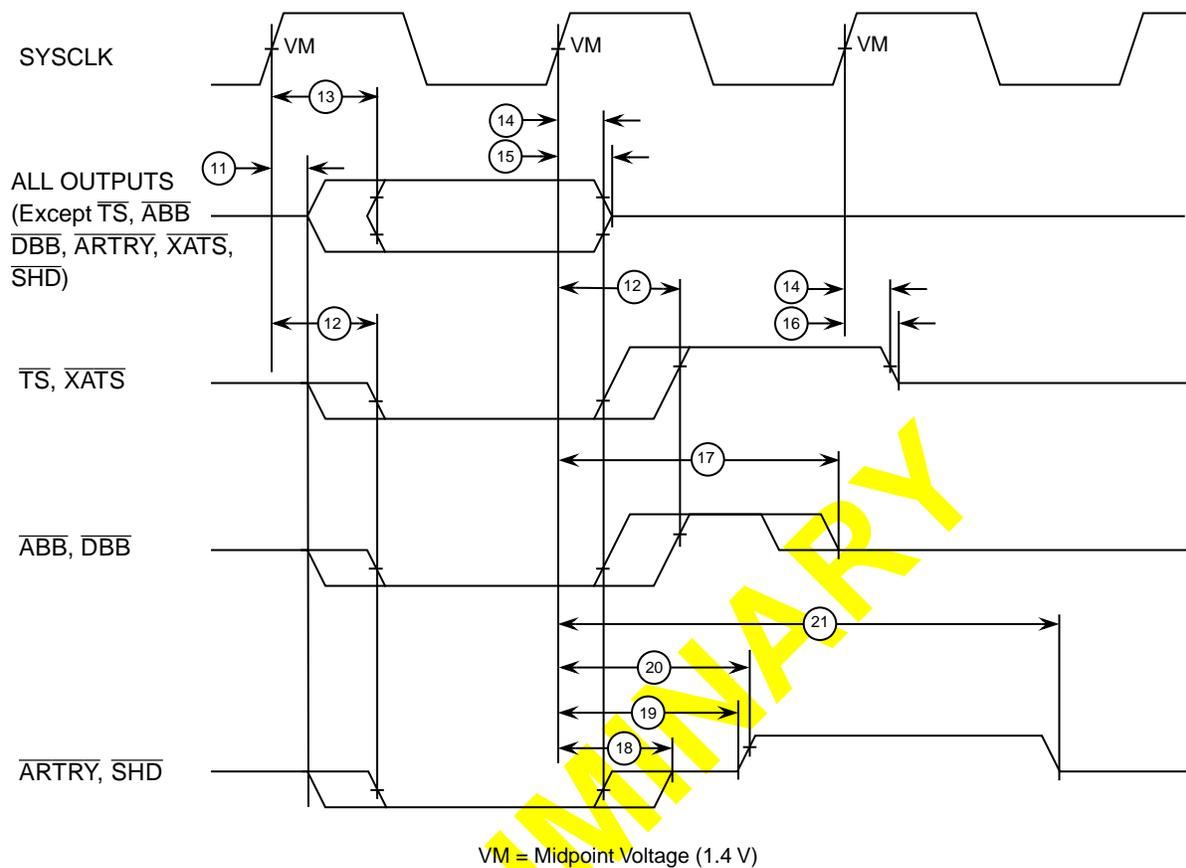

Figure 4. PowerPC 604e Microprocessor Output Timing Diagram
The 604e adds a Fast Out output mode which will allow for increased system bus frequencies. Table 8 provides the output AC timing specifications for the 604e (shown in Figure 4) operating in 604 Compatibility mode and Fast Out mode. 604e Fast Out mode is selected by driving the L2_TSTCLK pin to GND. When Fast Out mode is enabled, the output valid and output hold times are reduced.
1. All output specifications are measured from the 1.4 V of the rising edge of SYSCLK to the TTL level (0.8 V or 2.0 V) of the signal in question. Both input and output timings are measured at the pin (see Figure 4).
Figure 4 provides the output timing diagram for the 604e.